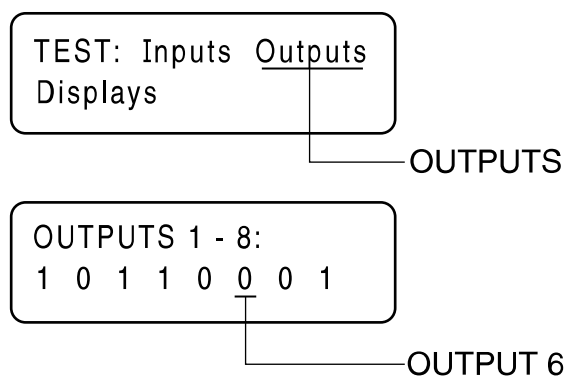

Figure 4-24. The Output Screens
- a. See Figure 4-24. Digital output 6 is wire 56 output from the board.